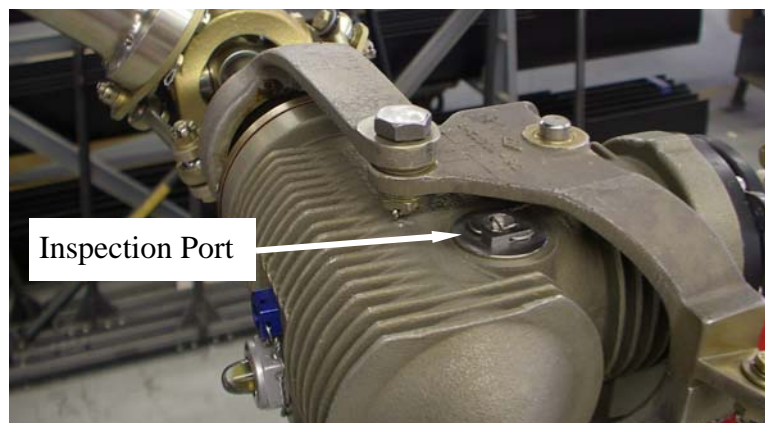

Figure 1. Tail Rotor Transmission Gearbox
- 6.1.2 Access the tail rotor drive gear via the inspection port located on top of the transmission (Figure 1).
- 6.1.3 Cut the safety wire between the inspection port plug (5) and bolt (3). Remove the inspection port plug (5) and o-ring (4) (Figures 1, 2, and 5). Discard the safety wire.